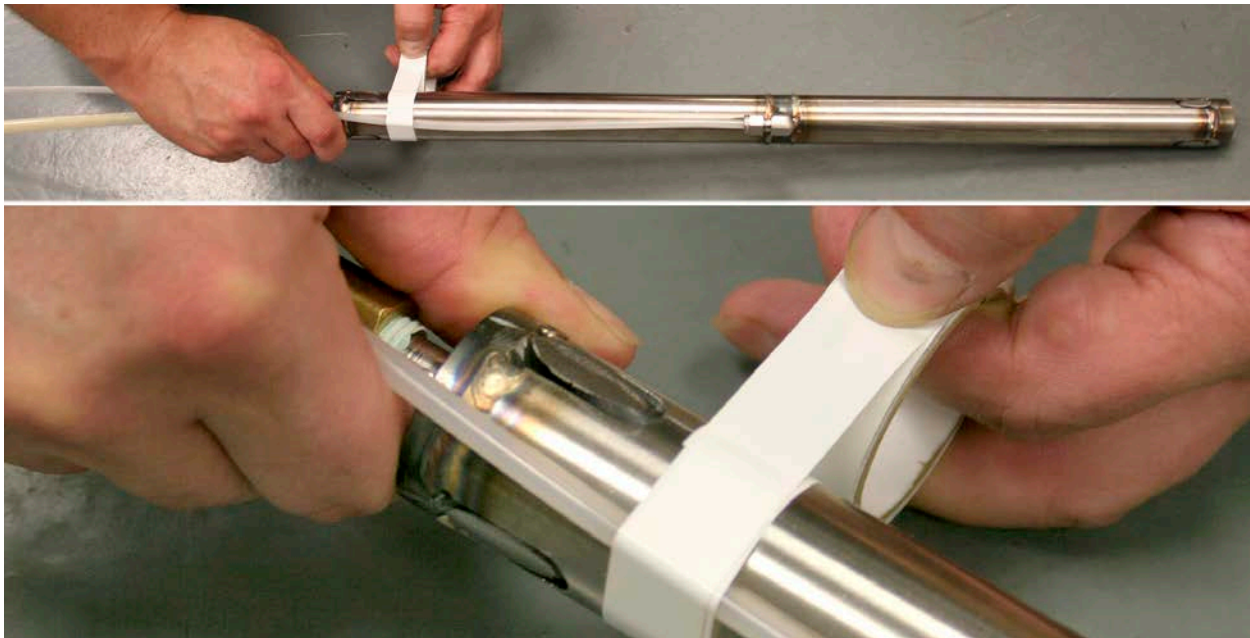

FIGURE 3-2 HYDRAULIC INFLATION LINE TAPED AWAY FROM THE PRONGS
- 18 Tape the hydraulic inflation line along the anchor body. Ensure the line does not rest over the extrusion opening of the prongs. Refer to Figure 3-2.
- 19 For groutable anchor are used, tape the grout tube to the lowest anchor and along the sheaths and anchors until reaching the top of borehole. Ensure the line does not rest over the extrusion opening of the prongs. Refer to Figure 3-2.